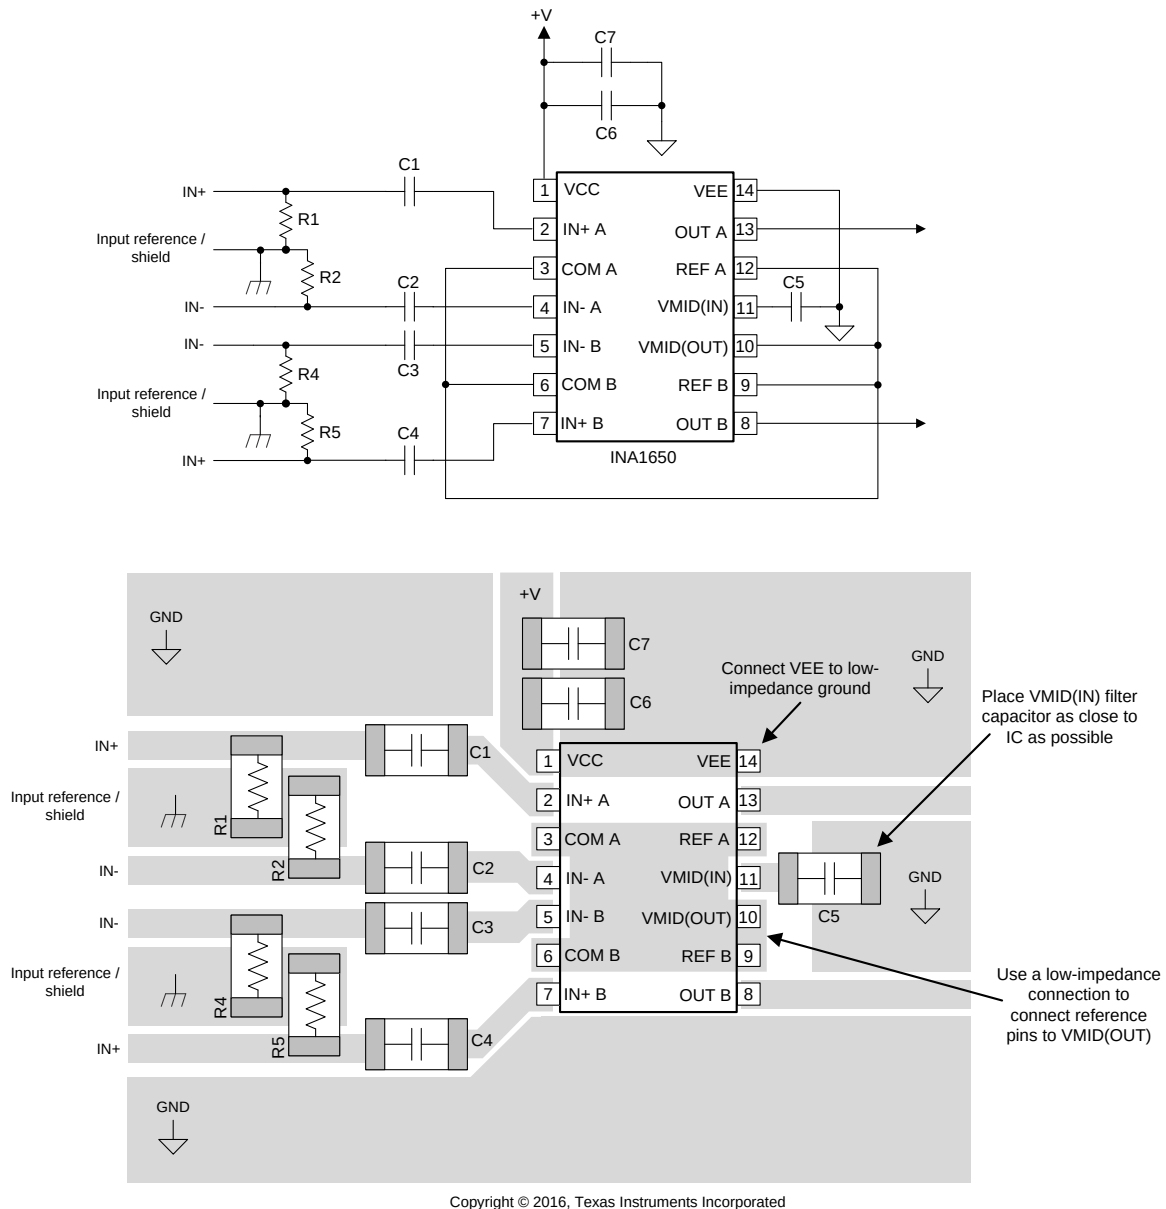

Figure 64. Layout Example for a Single-Supply Line Receiver
- Place the external components as close to the device as possible, as shown in Figure 63 and Figure 64.